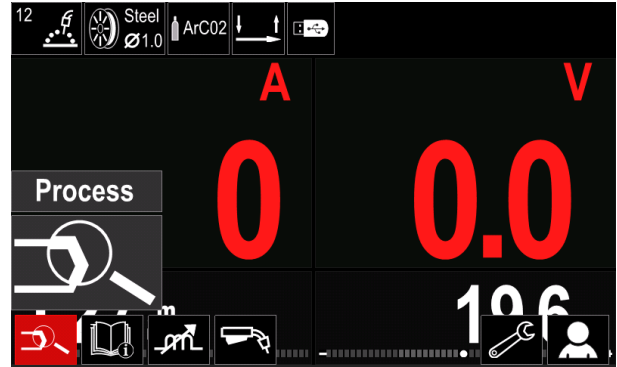

Figure 11
- Access to the „User Setup” (see the Figure 11.)